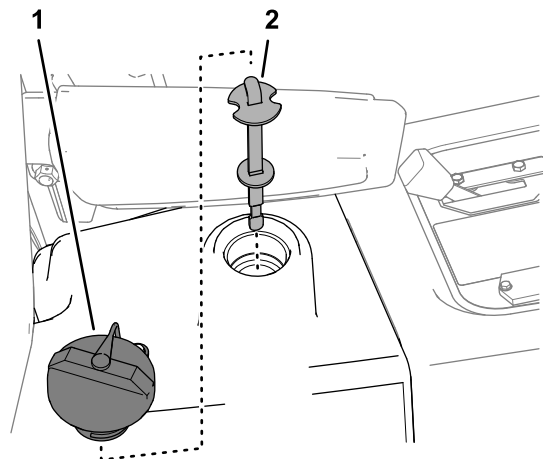

Figure 60
5. Check the fluid level in the hydraulic tank (Figure 60) and add fluid if needed; refer to the Checking the Hydraulic System procedure in the operator's manual for your machine.